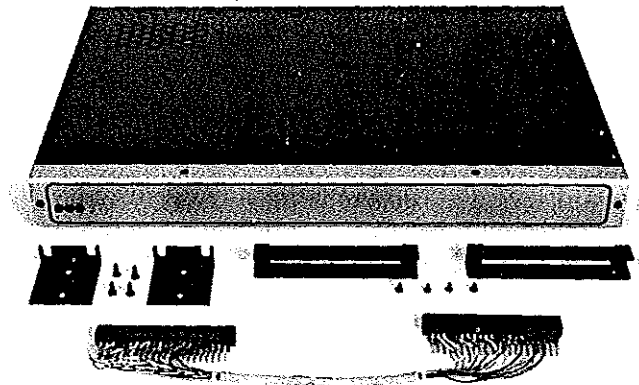

Fig. 9 - Line Expansion Kit
4.10 The Line Expansion Kit (figure 9) is used applications where several independent telephone line pairs or audio circuits must have access to one voice announcement. The Line Expansion uses a pair of Four Line Ring Trip Access Circuits in the Multi-Line Digital Announcer Chassis. The Four Line Ring Trip Access option has been previously described.